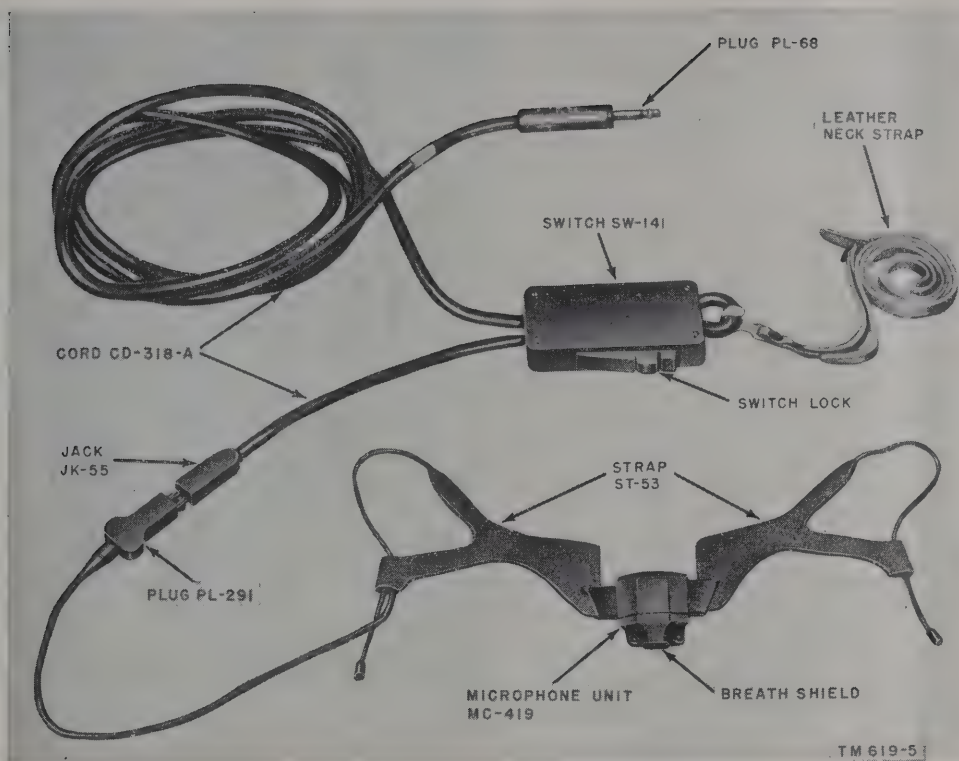

Figure 24. Microphone T-45 and Cord CD-318-A.
(4) *Cord CD-800 or CG-107/U (35-foot)*. This length of coaxial cable is used for the same purposes as the 15½-foot length described in (3) above. It is furnished only with the F model of Antenna System AS-19(*)/TRC-1.
e. CORD CD-318-(*) (fig. 24). This is a microphone extension cord for use with Microphones T-30-(*) or T-45. The cord is equipped with a switch (Switch SW-141-(*)) and is suspended from the wearer's neck with either a cord or a strap with a quick release clip. The Terminals at one end of the switch are con-
c. MICROPHONE T-45-(*), (fig. 24). Microphone T-45-(*), is a noise-canceling, single-button, carbon microphone designed to be worn over the upper lip. The design of the microphone reduces background noise and allows speech to be reproduced clearly under all conditions of loud background noise. This microphone is used with Cord CD-318-(*), containing a press-to-talk switch, which is used as the receive-transmit switch in a manner similar to the push-to-talk switch on the center part of Handset H-23-(*)/U.